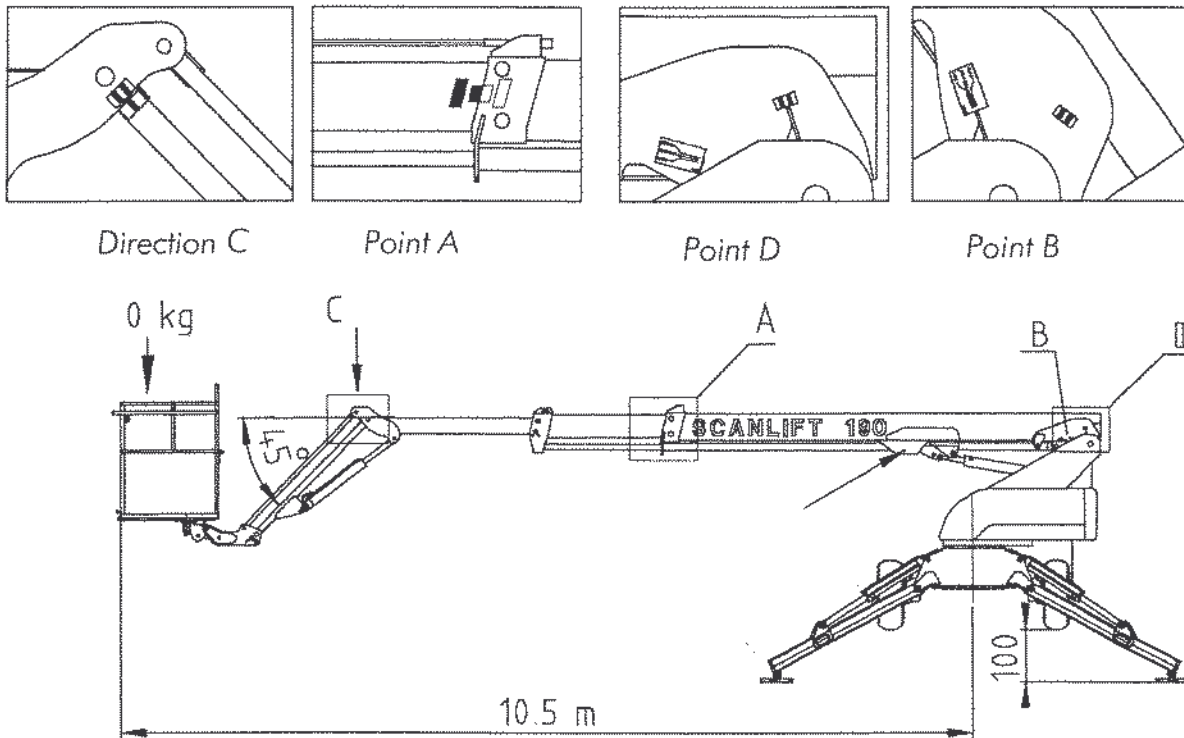

Figure 8-2. Gauge marks for lowering the boom and boom extension
8.5 Extend the jib to an angle of 45 degrees to the booms according to the markings on the jib and the boom end, see figure 8-2 C. Raise the boom off the transport support, turn the booms to the left about 10 degrees. Lower the booms completely. Turn off the combustion engine from the platform ignition lock.
8.7 Raise the booms to a horizontal position from the point of control at the turntable, see figure 8-2 D.